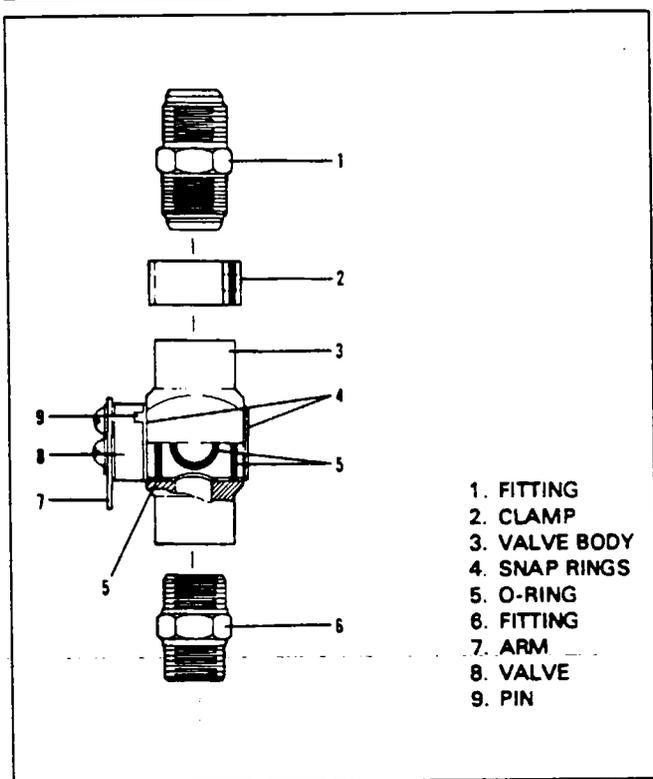

Figure 28-11. Crossfeed Valve.
**FUEL VALVES.** (Refer to Figures 28-11 and 28-12).
**DISASSEMBLY OF CROSSFEED VALVE AND FUEL SHUTOFF VALVE.** (Refer to Figures 28-11 and 28-12).
**ASSEMBLY OF FUEL SHUTOFF AND CROSSFEED VALVE. (Refer to Figures 28-11 and 28-12).**